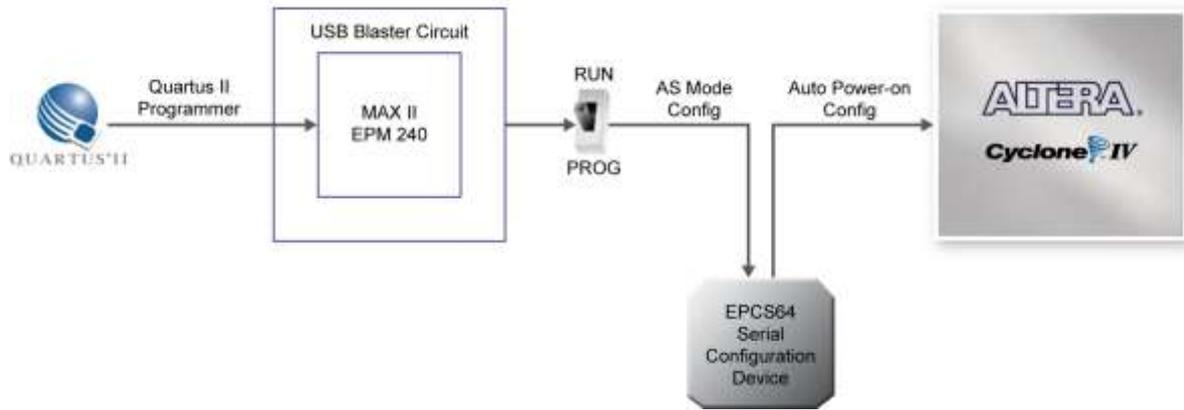

Figure 3-6 The AS configuration scheme
Figure 3-6 illustrates the AS configuration setup. To download a configuration bit stream into the EPCS64 serial configuration device, perform the following steps:
- Connect the supplied USB cable to the USB Blaster port on the DE2i-150 board (See Figure 3-6)